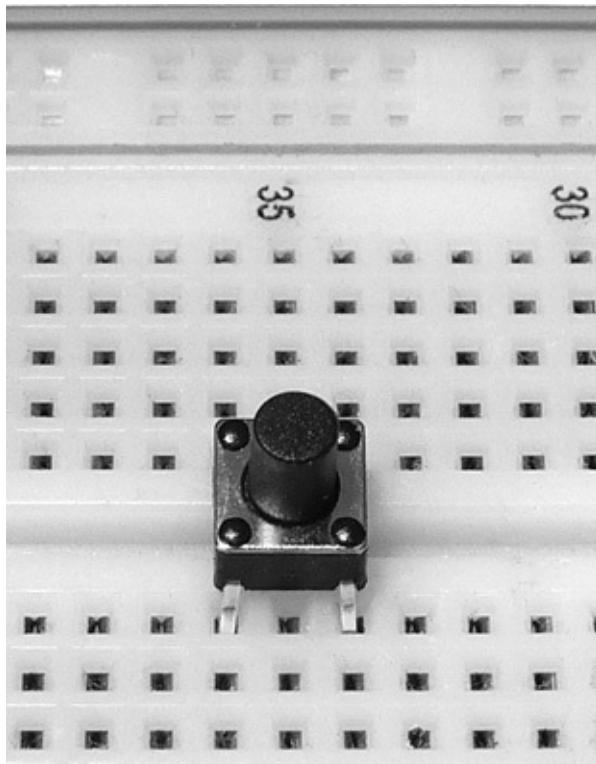

Figure 4-20. Push button inserted into breadboard
1. Insert the push button into the breadboard, as shown in Figure 4-20.